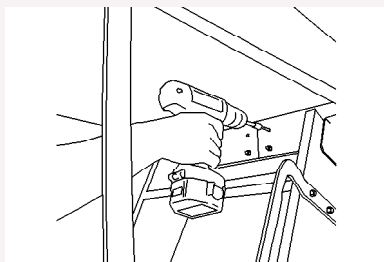

fig 14
5. From a step ladder or saw stool or similar (**not the attic stair**), fix the hinge end of the stair to the ceiling framing through the two outer predrilled holes in the hinge plates (figure 14). Use the 65mm Timbertight screws supplied or something similar. Do not fit tight yet.